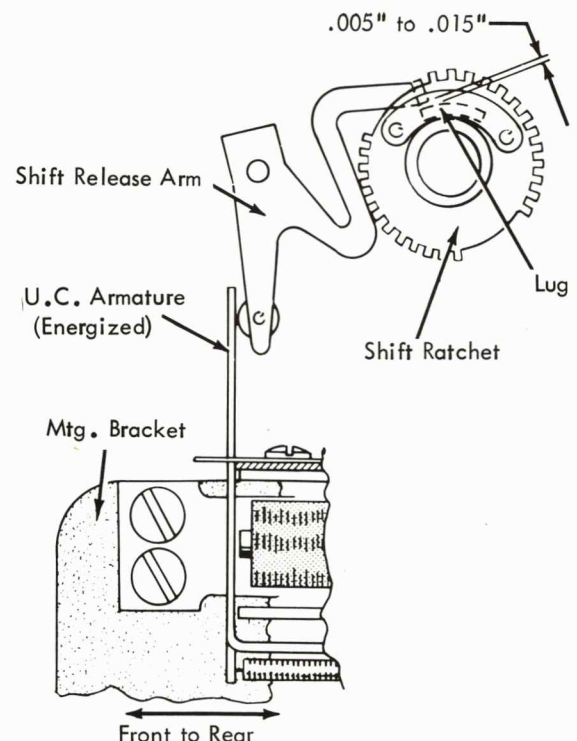

FIGURE 38. Magnet Assembly Mounting Bracket
5. Magnet Assembly Mounting Bracket (Fig. 38) - Position the magnet assembly mounting bracket (UC armature energized) so that the release arm clears the shift ratchet lug by .005" to .015".